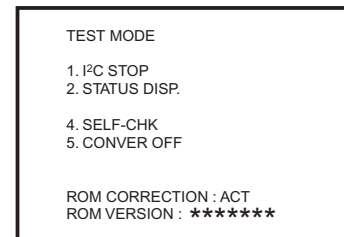

Fig. 1
2. While the indication of SLEEP TIMER 30 MIN. is being displayed, press [DISPLY] key and [VIDEO STATUS] key. The TEST MODE screen is displayed. (Fig. 1)